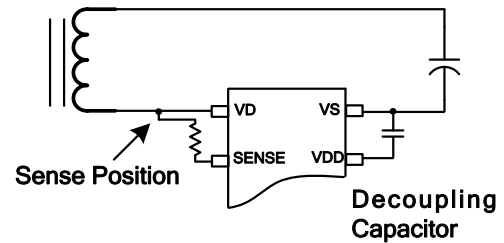
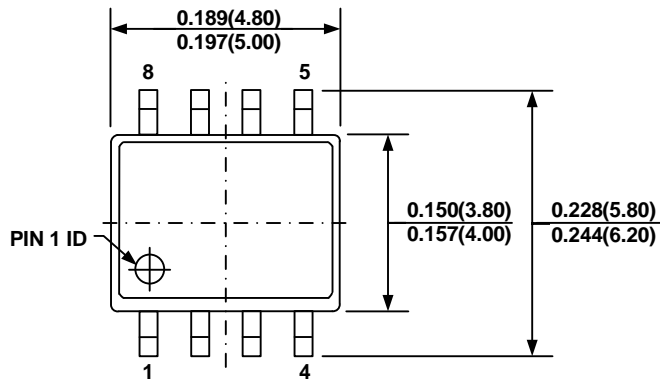

**Figure 4: Layout Example in Flyback Low-Side Application**
**Figure 5: Voltage Sensing for VD/SENSE**
Figure 4 shows a layout example for a low-side application of a flyback power supply, specifically a single layer with a through-hole transformer. RSN and CSN comprise the RC snubber network for the internal MOSFET. The sensing loop (SENSE to the MOSFET drain) is optimized and kept separate from the power loop. The VDD decoupling capacitor (C2) is placed beside VDD.
Efficient PCB layout is critical for stable operation. For the best results, refer to Figure 4 and Figure 5, and follow the guidelines below:
1. Connect the SENSE pin to a different position for an adjustable turn-off time during the fast transients in CCM. The further the junction point is from VD, the earlier the SR turns off (see Figure 5).